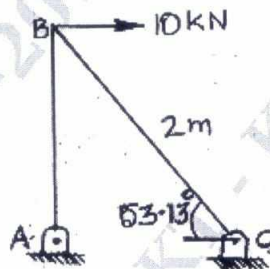

Fig. Q6 (b)
- b. A truss is subjected to a force of 10 kN as shown in Fig. Q6 (b). Determine (i) Displacements and forces at points A, B and C (ii) Local forces on the member AB and (iii) Stress induced in the member BC. Take Young's modulus for the material of the truss as $E = 210$ GPa and cross sectional area of each truss member as $A = 600$ mm². (14 Marks)